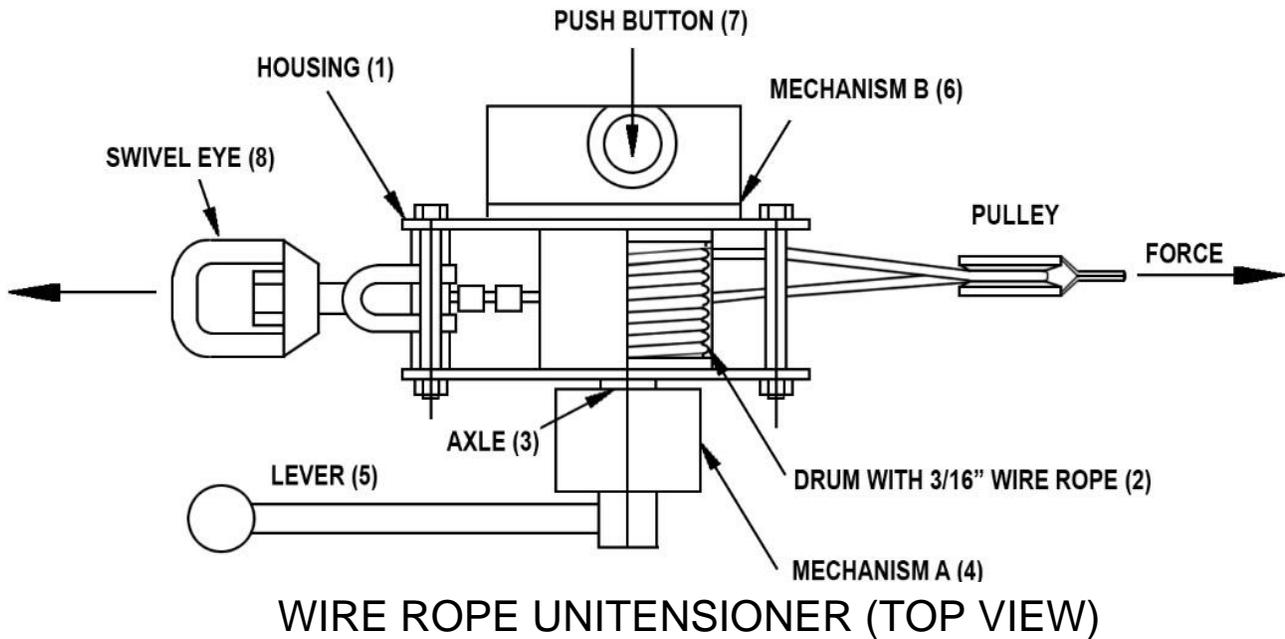

FIG 4
The Unitensioner[®] consists of the following parts (Fig. 4):
- Hold the Unitensioner[®] With Mechanism A facing you, press down on the button on Mechanism B (Fig. 4, no. 7) with one hand. With the other hand, extend the wire rope from the drum (Fig. 4, No.2) by pulling on the attachment pulley (Fig.4, No.8) until the distance between the pulley and the end of the housing edges is approximately 10-12 inches. Temporarily rest the Unitensioner[®] on the work surface.
- Tighten the line, by inserting the lever (5) (Fig. 4, No.5) into Mechanism A and turning counter clockwise until the turning cylinder stops clicking and begins to slip.